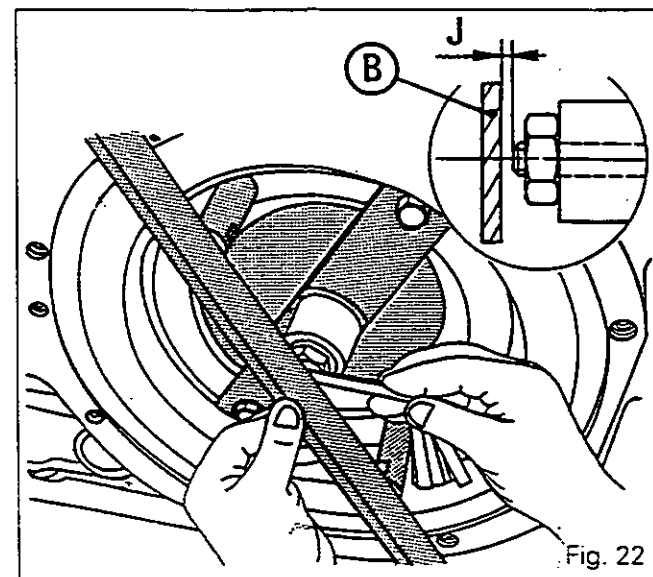

Fig. 22
- 99. Measure the play J between the finger of the tool and the straight edge (B) with a feeler gauge (Fig. 22)